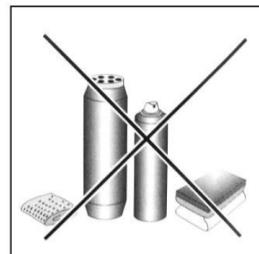

Fig.2
- For the tempered glass surface use hot water and soap or an anti-grease product, you can also use the specific products for the cleaning of vitroceramic plates. Do not use scouring pads that can scratch the surface, nor should you use abrasive products such as spray stain removers for the ovens (Fig. 2).